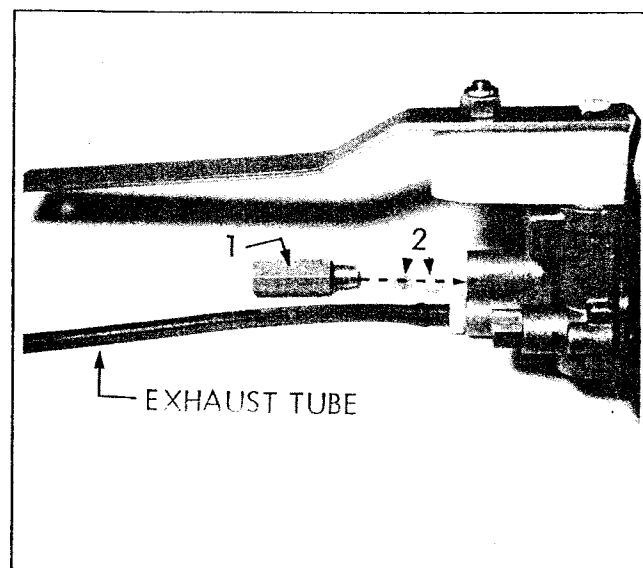

Figure 12-8B: Height Control Valve Dismounted
Remove the adapter assembly (1) and discard, refer Figure 12-8B. Remove the two small filter screens located behind the adapter assembly for cleaning (2), refer Figure 12-8B. Clean with solvent and air blast. Replace the two small screens and install a new adapter (1) and reconnect air line. Check height control valve for air leaks.